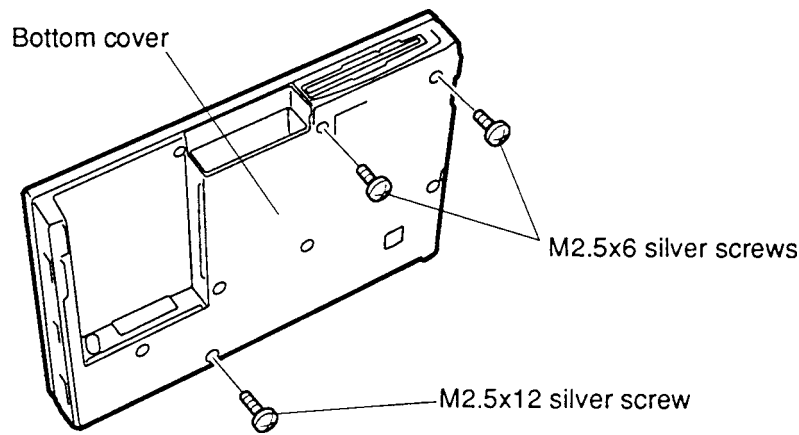

Figure 4-29 Removing the screw securing the base assembly
- Stand the T4700CS/T4700CT/T4800CT on its back side and grasp the computer with your hand covering the base assembly. While holding the computer with one hand to steady it and to protect the base assembly, remove **two M2.5x6 silver screws** and **one M2.5x12 silver screw** on the bottom of the computer (figure 4-29).
5. Secure the **two M2.5x6 silver screws** and **one M2.5x12 silver screw** on the bottom cover (figure 4-29).